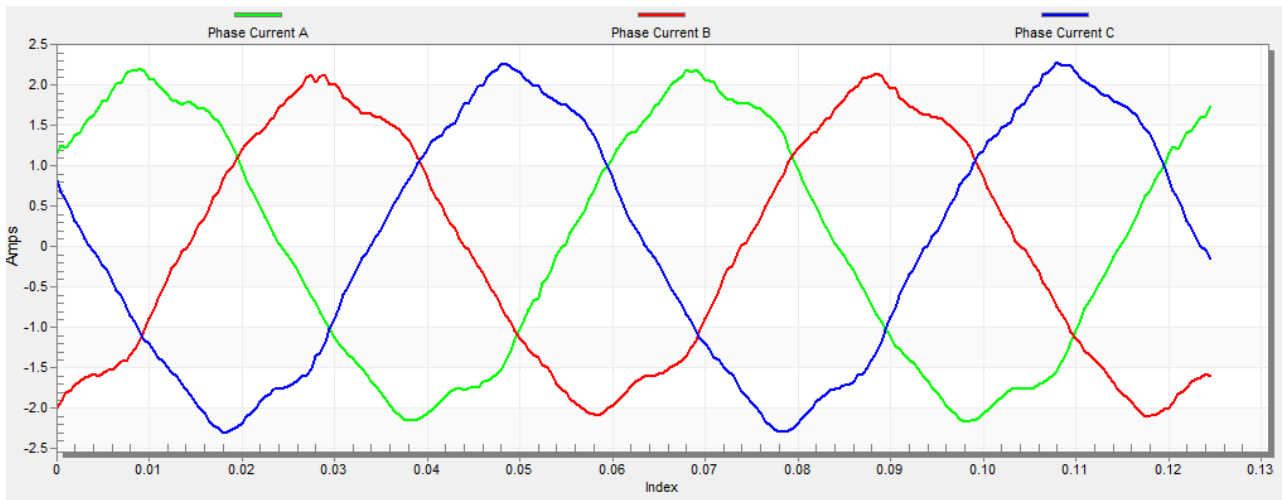

Figure 27. Phase currents
5. The optimal ratio for the V/Hz profile can be found by changing the V/Hz factor directly or using the “UP/DOWN” buttons. The shape of the motor currents should be close to a sinusoidal shape (Figure 27).